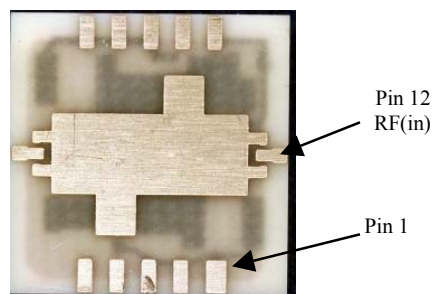

Figure 2: Bottom View [TGA8652-EPU]
3. Manually place a TGA8652EPU on the motherboard with correct orientation and good alignment. The alignment can be determined manually by centering the package on the motherboard. The RF traces are located in the center of the package and so are the center traces of the DC bias (Fig. 2)